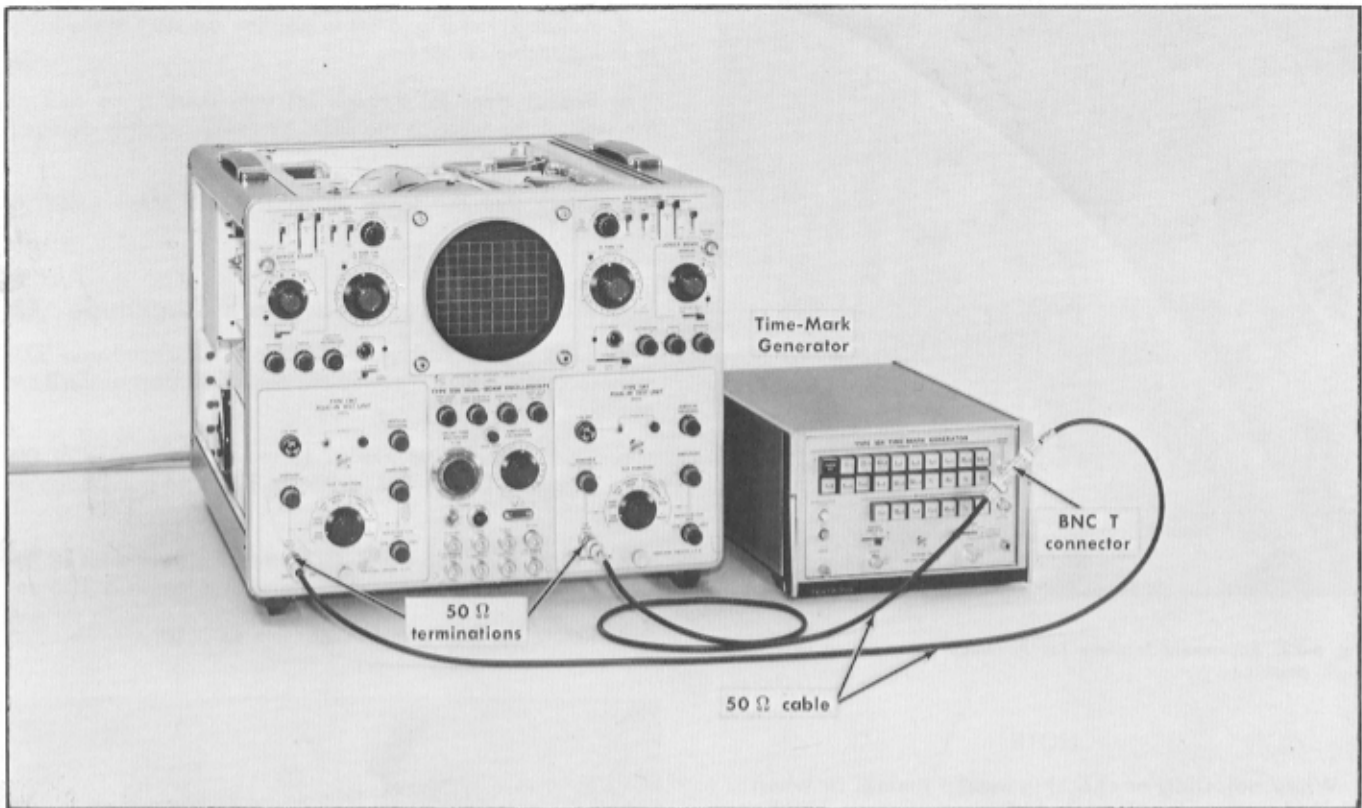

Fig. 6-32. Equipment setup for basic timing procedures—A and B sweeps.
a. Remove the Type 1A1 units and install Test Load units in their place. The test equipment setup is shown in Fig. 6-32.